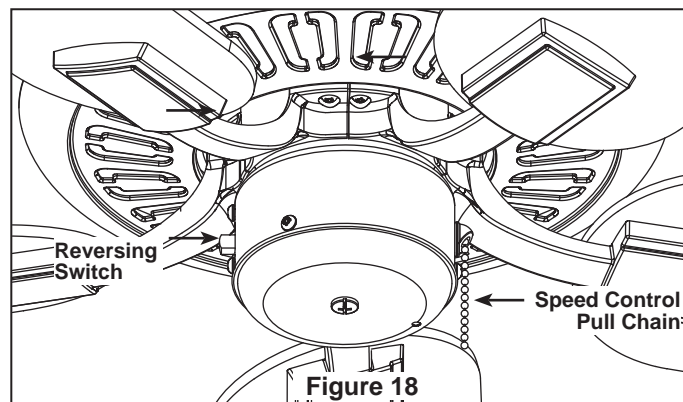

Figure 18
- 3. If airflow is desired in the opposite direction, turn the fan off and wait for the blades to stop turning. Then slide the reverse switch to the opposite position and turn fan on again. Your fan model is equipped with a 4-position, 3-speed, pull chain switch. (Figure 18)